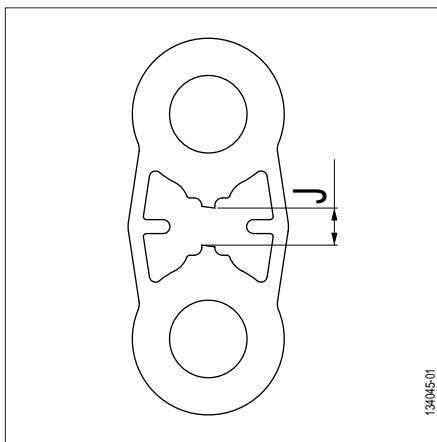
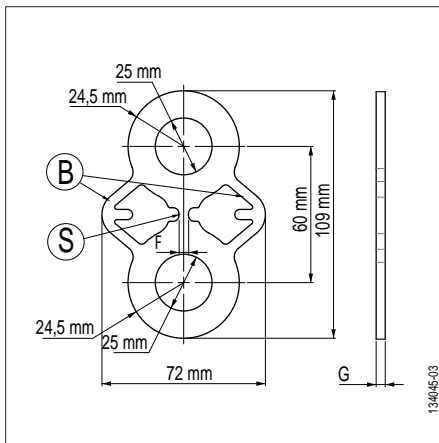

Fig. 1
Fig. 3
The test load is reached when the central section of the plate (fig. 3, page 11, item S) shears. A pair of brace arms (fig. 3, page 11, item B) secure the loading line after shearing of the 'S' section.
The different TA test plates are made of stainless steel of the same grade to ensure shearing of the section (fig. 3, page 11, item S) to a level of precision of +/- 10 % of the CR shear load indicated on the TA test plate (Chapter "11 Markings"). The brace arms (fig. 3, page 11, item B) are designed to ensure a mechanical strength of at least the CR shear load indicated on the test plate.
- At the shear load CR indicated on the TA test plate (Chapter "11 Markings") shear of S section (fig. 3, page 11, item S).
→ Elongation of plate and appearance of clearance 'J' between upper and lower half-parts of TA test plate (fig. 1, page 11, clearance J).
DANGER : If the operator applies a new load to the test plate after shearing of the 'S' section, the brace arm can break (fig. 3, page 4, item B) resulting in falling down of the load application device. The maximum clearance 'J' (fig. 1, clearance J) must not exceed 15 mm.